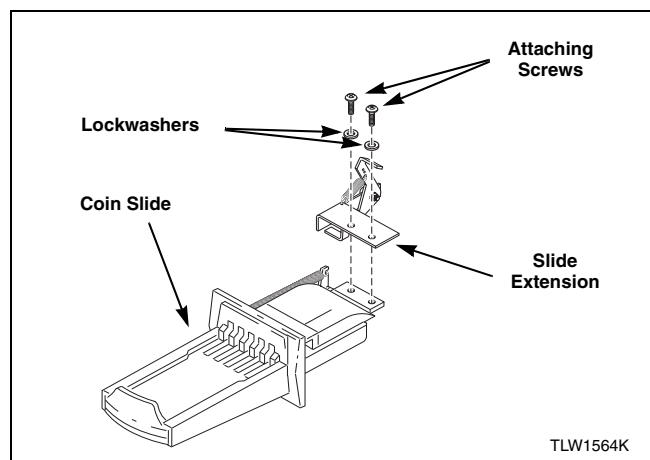

Figure 15
1. Install slide extension onto top of coin slide using two remaining screws and lockwashers. Refer to *Figure 15*.
3. Install slide extension onto top of coin slide using two screws and lockwashers. Refer to Figure 15.